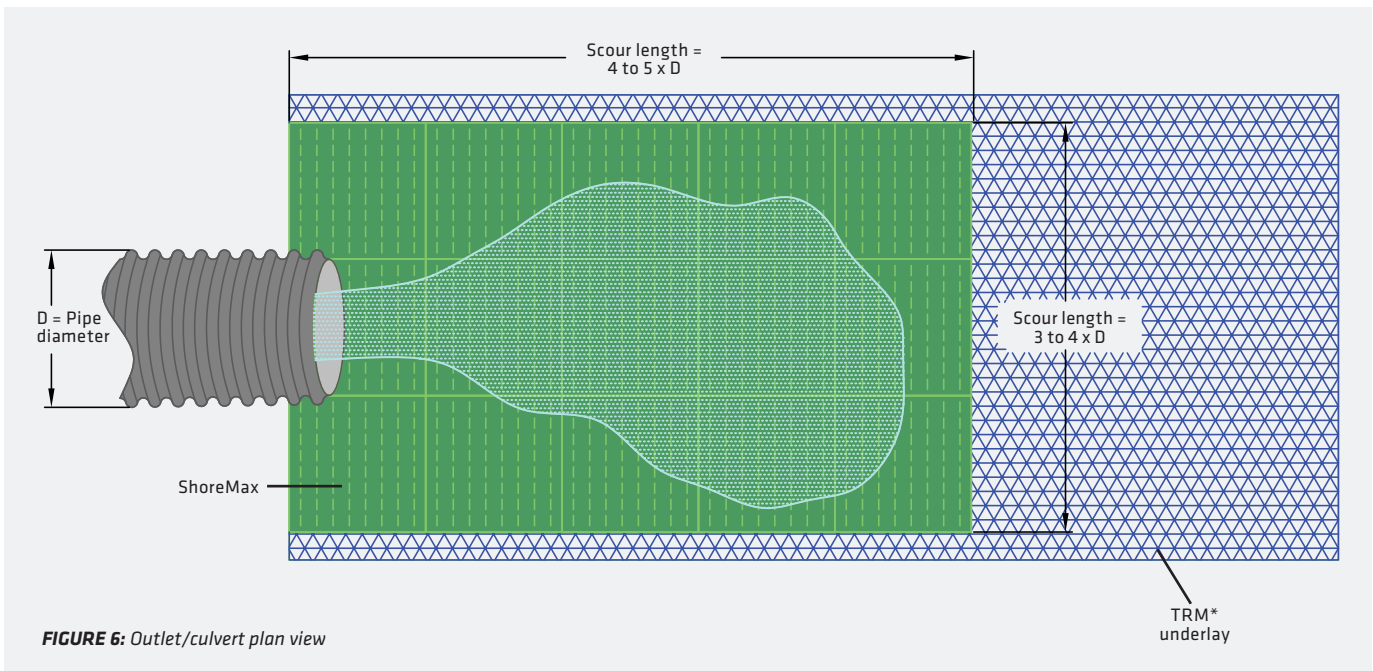

FIGURE 6: Outlet/culvert plan view
3. Place the ShoreMax Mat over the installed TRM (Figure 6). The ShoreMax Mat can be laid in either direction.
4. For culvert and outfall applications, the ShoreMax Transition Mat should extend a minimum width of 3-4 times the pipe diameter and a minimum length of 4-5 times the pipe diameter (Figure 6). With steeper channel gradients, the length of the ShoreMax Mat may need to be extended.